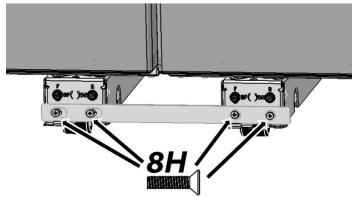

Fig. 14
- Having the refrigerator/freezer standing side by side $\frac{1}{2}$ " apart, fasten a 9H bracket to the front of the Levelers (Fig. 14), keeping the left-side 8H screws loose.
- Fasten the four 8H screws (Fig. 14 and 15) through 2 front and back 9H brackets. You may need several adjustments for the center trim to be consistently flush and centered to the units.